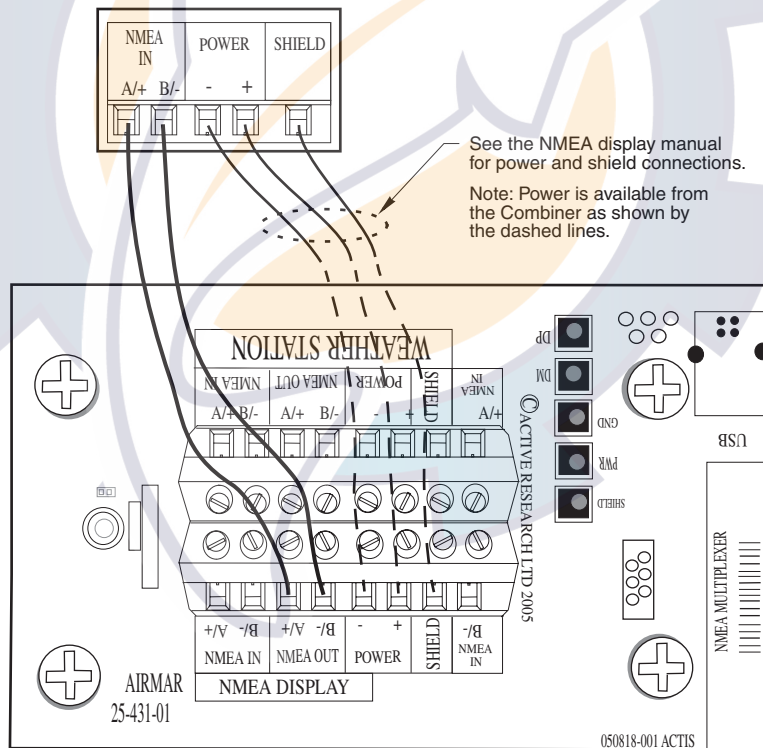

Figure 14. Wiring diagram to connect additional display devices
10. Fasten each wire in turn into the designated AUX NMEA OUT terminal. Loosen the screw, insert the stripped end of the wire into the square hole and retighten the screw. *Be sure the stripped end of the wire is inserted up to its insulation only. Do not include any insulation inside the terminal.* Gently tug on the wire to ensure that it is securely fastened. Repeat this process until all the wires are connected. Refer to the owner's manual that came with the display/sensor and the wiring diagram below (see Figure 14).